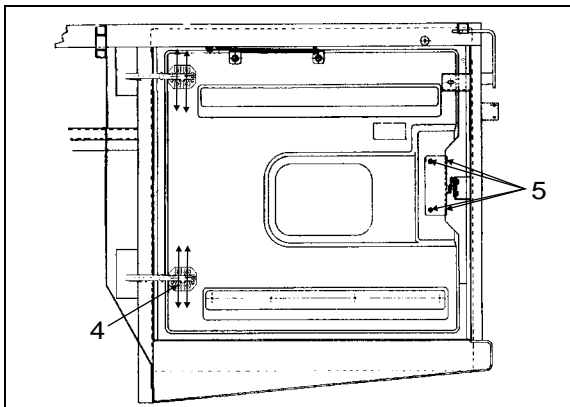

FIGURE 75: ENGINE COMPARTMENT R.H. DOOR
- Loosen screws (4, Fig. 75).
- Adjust the door in accordance with the required distance between exterior finishing parts (Fig. 75).
- Adjust the door position according to the distance required between exterior finishing parts (Fig. 75).